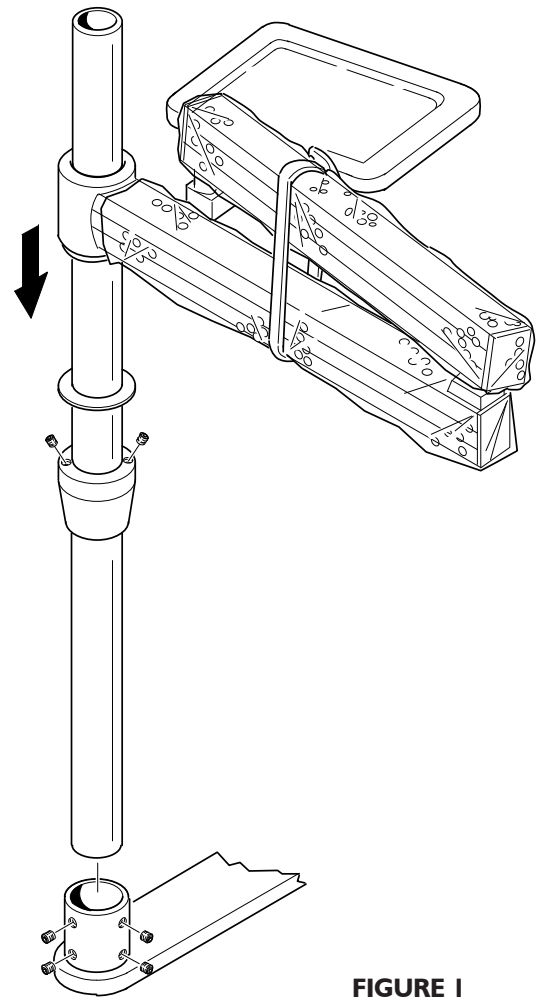

FIGURE 1
1. Install the unit post on the chair mount bracket (see Figure 1). Using the post leveling tool DCI PN 8668 and the appropriate hex key, adjust the set screws in the chair mount bracket to set the post in a perfectly vertical position. A slight deviation will cause the control unit and tray to not be level, allowing instruments to roll on the tray.
2. Install the arm assembly with control unit on the unit post as follows: (Figure 1 covers the next four steps).